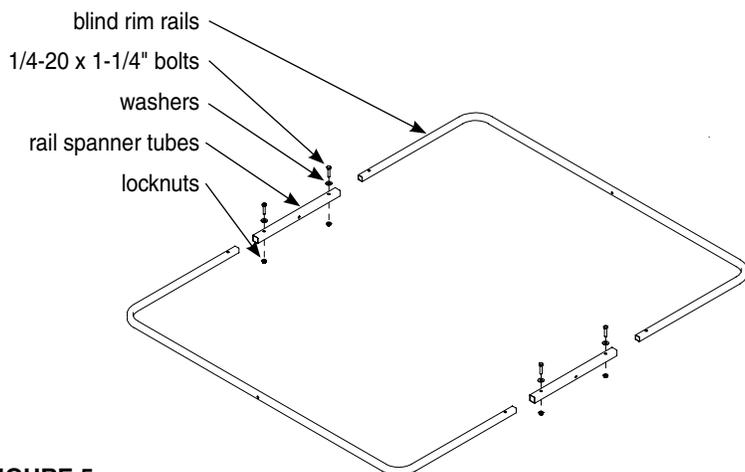

FIGURE 5
8. a. Insert (2) blind rim rails (TWR19) into (2) rail spanner tubes (TWR26) forming a square. Align the four holes and insert (4) provided 1/4-20 x 1-1/4" bolts, locknuts and washers. **SEE FIGURE 5.**